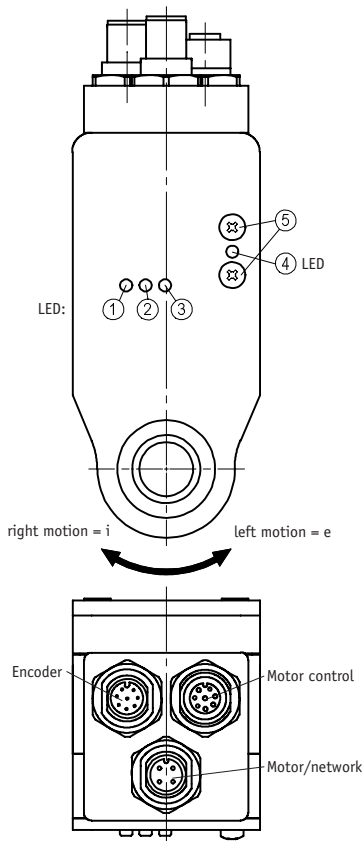

Fig. 4: Motor control PWM
By opening the Phillips screws (5) (see fig. 4+5) the continuously adjustable trim potentiometer can be accessed.